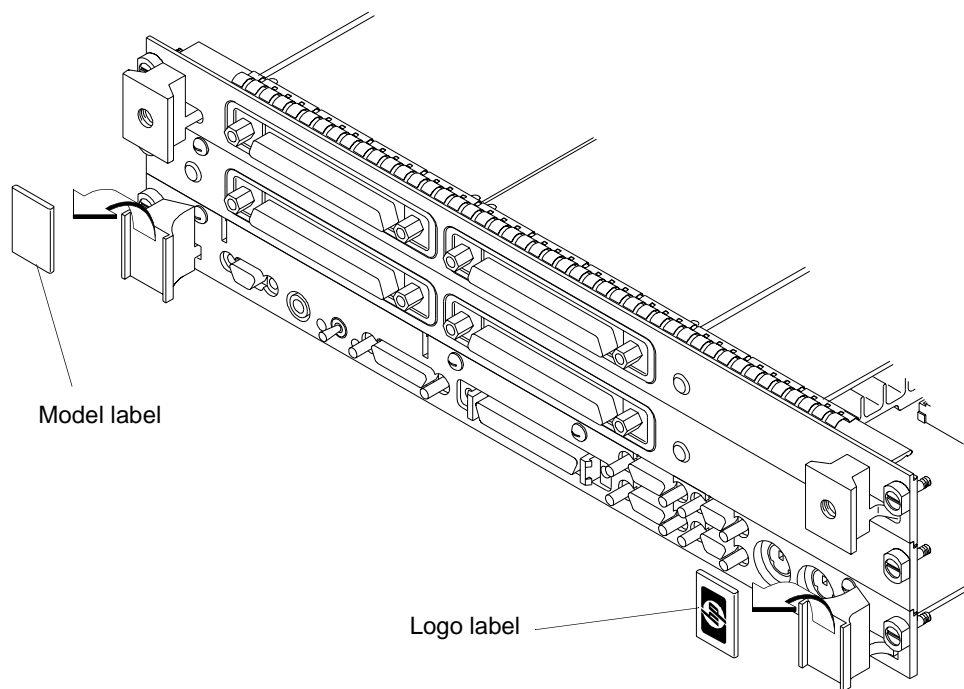

Figure 2-10 **Removing Ejector Handle Labels**
- a** Remove the logo and model labels from the ejector handles on your board computer, as shown in Figure 2-10.